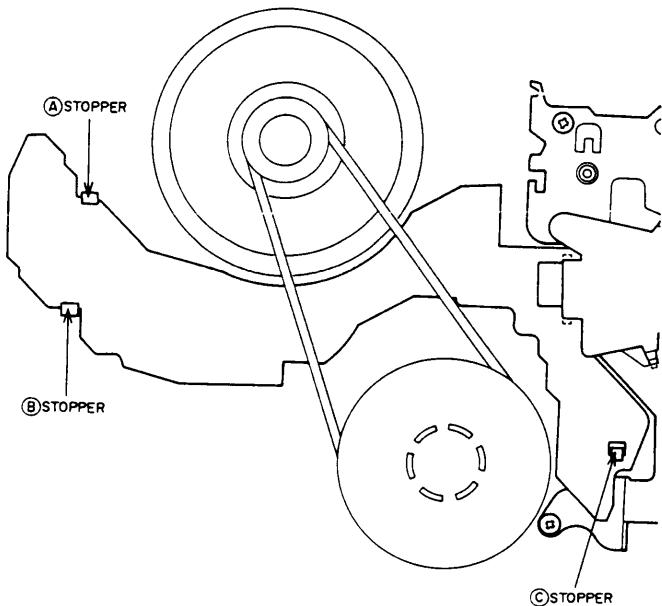

Fig. 4-6
3) Release the Ⓐ, Ⓑ, and Ⓒ stoppers as shown in Fig.4-6. Then remove the SENSOR PCB.